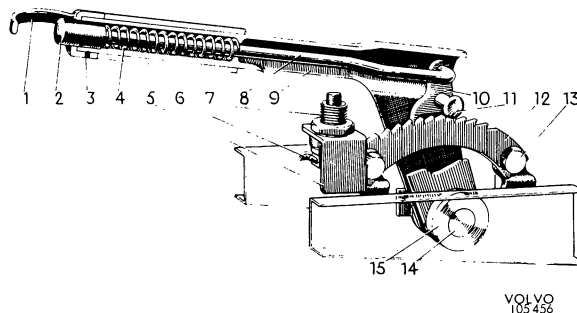

Fig. 5-88. Parking brake components
2. Remove the split pin and washer at the shaft lever. Turn the pull rod so that it can release from the lever. Remove the ratchet segment (12, Fig. 5-88).
3. Unscrew the bolts for the bearing attachment and drive out the pin (14) and attachment. Lift forward the lever (9).
4. Unscrew the lock bolt and remove the bracket (1) and push button (2). Remove the spring from the lever. Remove the rivet (11) and take out the thrust rod (8) and pawl (10).